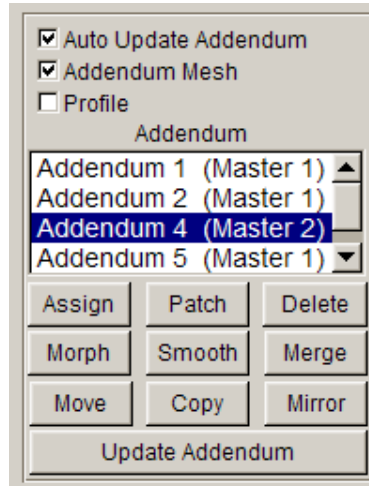
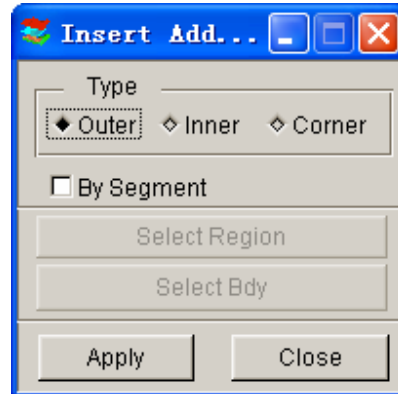
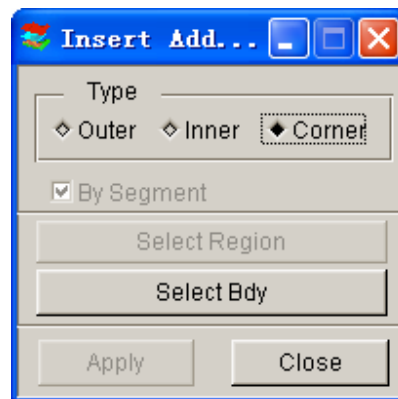

Figure 6.3.12 Create and Edit Addendum
Figure 6.3.13 Insert Addendum
Figure 6.3.16 Corner Addendum
This menu provides functions to create addendum from the master profile, edit and modify the addendum, etc. The available functions in the ADDENDUM menu are shown in Figure 6.3.12.
After the user selects a Master profile and clicks the **ASSIGN** button as in Figure 6.3.12, DYNAFORM opens a dialog window (Figure 6.3.13).
1. When the **CORNER** option is selected, the dialog window in Figure 6.3.13 will change to Figure 6.3.16.
This function enables the user to delete the selected addendum. The user selects an addendum from the **ADDENDUM LIST** window and clicks the **DELETE** button in as shown in Figure 6.3.12. The program will highlight the selected addendum and display a dialog window as shown in Figure 6.3.23 to prompt the user to confirm the deletion of the addendum.